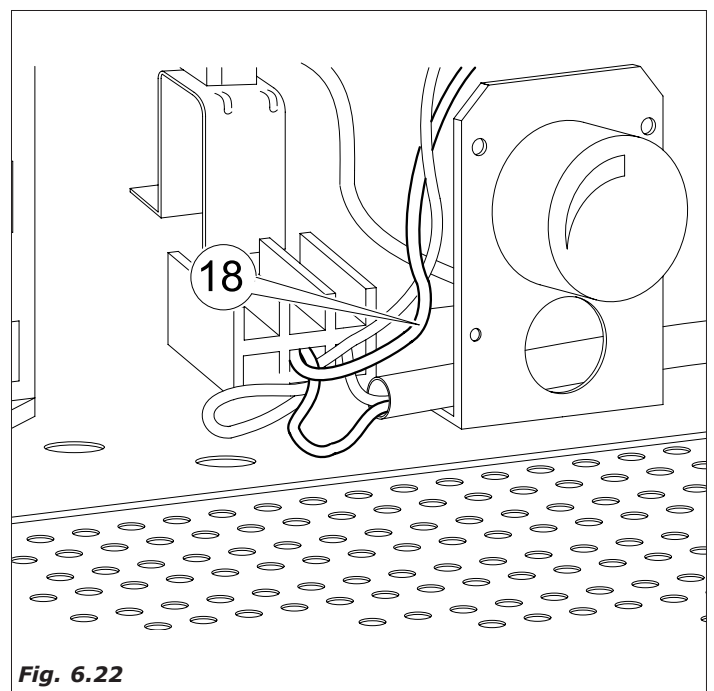

Fig. 6.22
- Connect the refrigerating group electrically (insert into the junction box the blue wire n. 18) (Fig. 6.22)